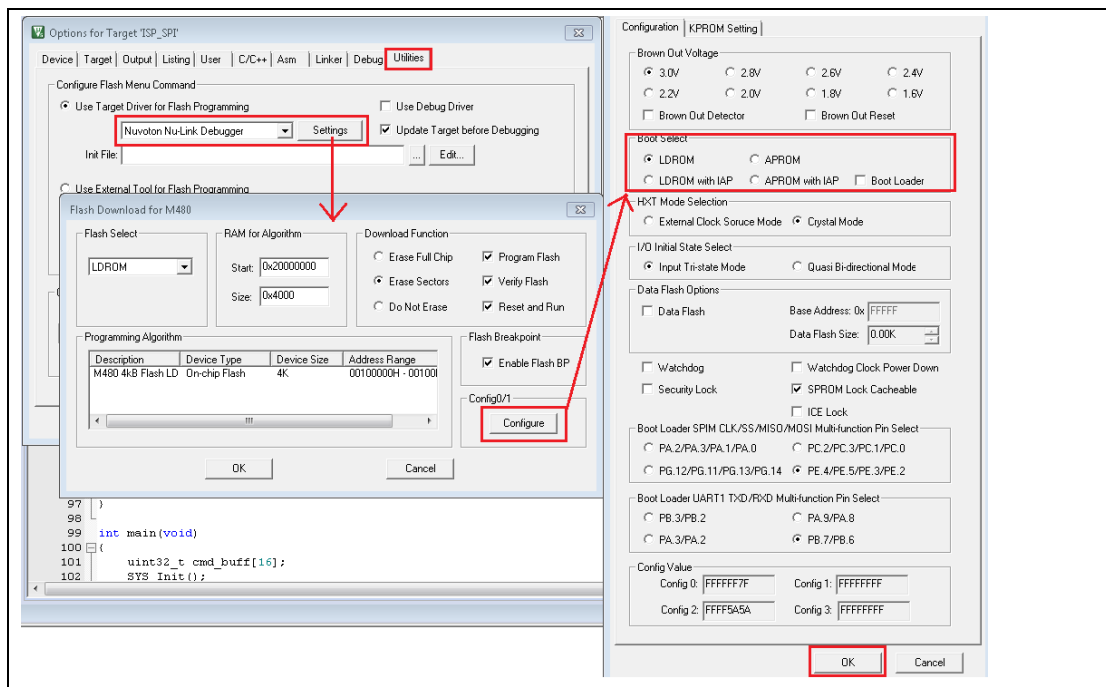

Figure 5.2-50 Boot from LDROM Setting in Keil ISP Firmware Project
- (6) Invoke **Project** → **Options for Target** → **Utilities**, select “**Nuvoton Nu-Link Debugger**” when the **Use Target Driver for Flash Programming** option is enabled, and select the **Update Target before Debugging** option, as shown in Figure 5.2-50
- (7) Click the **Settings** button to open the Flash Download form, as shown in Figure 5.2-50
- (8) Click the **Configure** button to open the user configuration form and set **Boot Select** option to LDRM and click **OK** button as shown in Figure 5.2-50
- (9) Download code to LDROM of target chip.